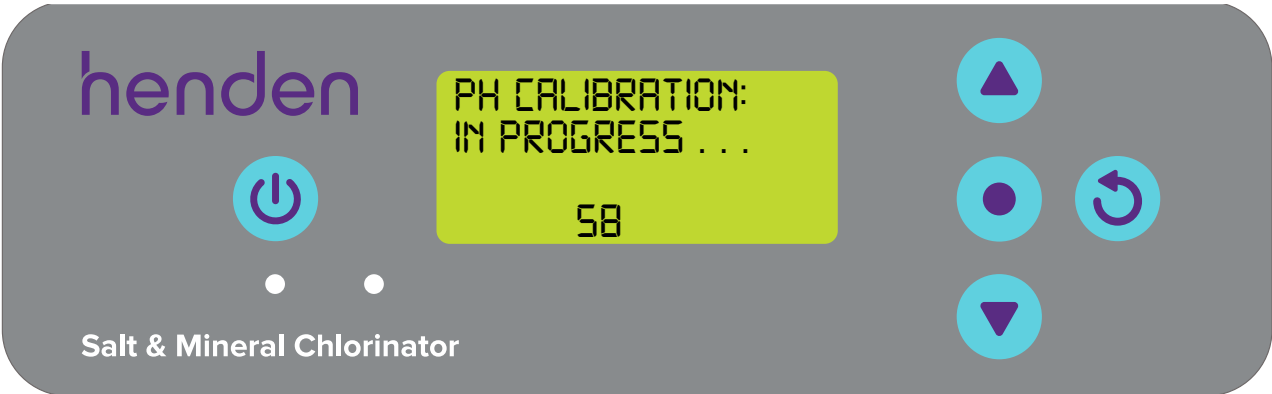

Figure 6.11
- The screen will next display pH calibration in progress (refer Figure 6.11). A count will commence. Typically, the calibration will take less than 15 seconds, but may take up to a minute;